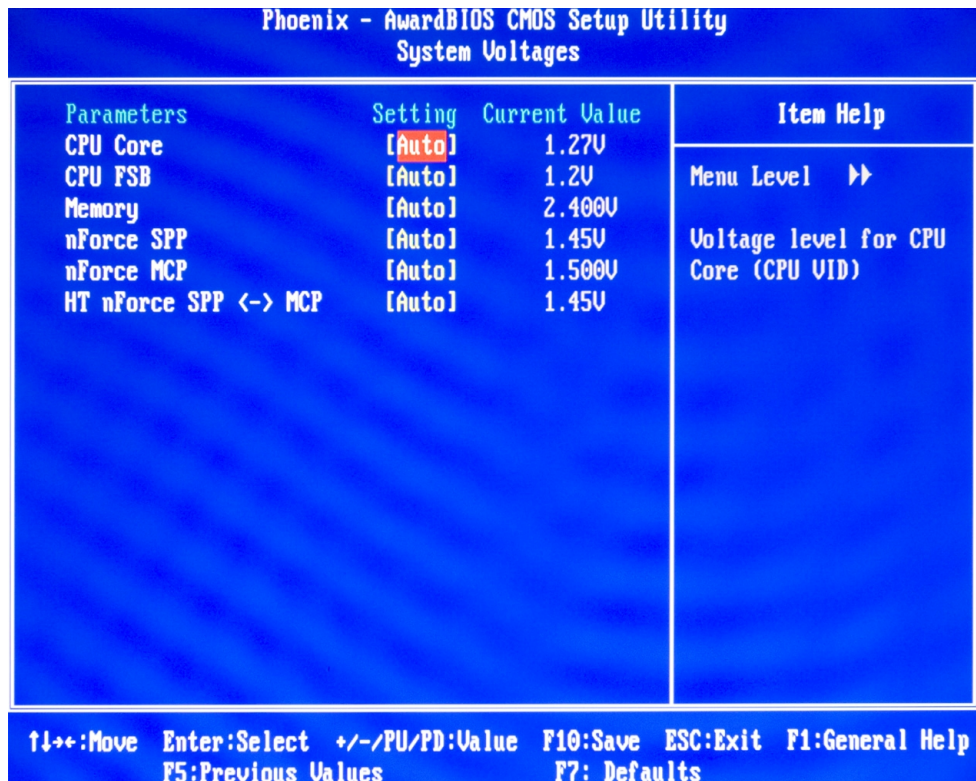

Figure 11. System Voltage Settings
4. To change any of these values, press ENTER and it brings up a menu you can choose from, as shown in Figure 11.